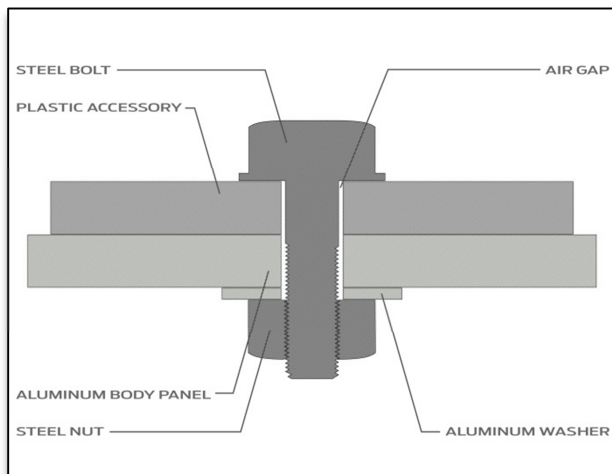

Figure 1
**Figure 1** shows a plastic accessory attached to the aluminum sheet metal and the fastener properly isolated from contact with the aluminum sheet metal.